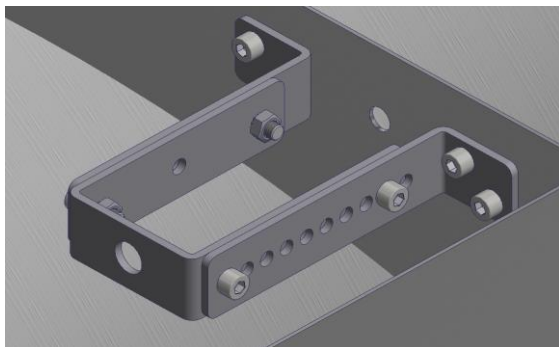

Figure 6
-Assemble the bracket with a suitable nut, washers and bolts (M8) (not included in the RMT kit) Fig.6.